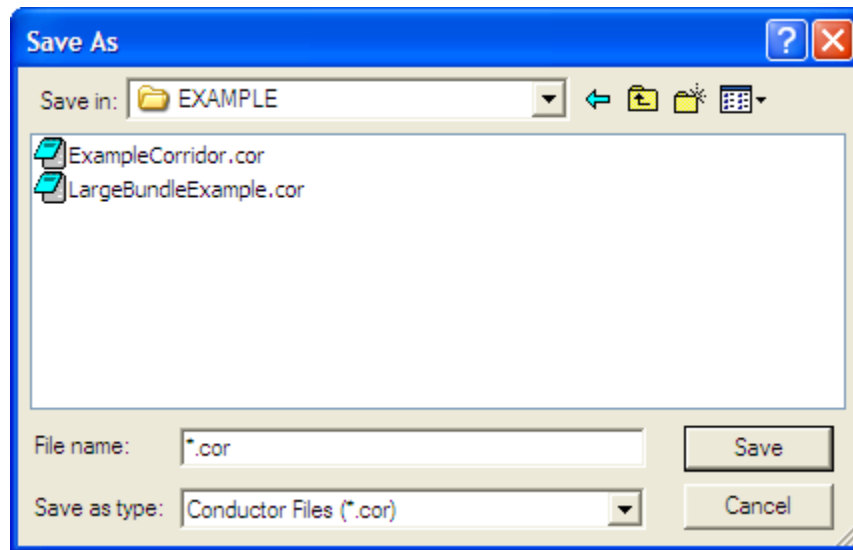

Figure 1-19. Save As Dialog Box
1. Click the **Save** button  on the LineProp Toolbar, or choose **File>Save As...** or **File>Save** from the Main Menu. The Save As dialog box is shown in Figure 1-19.